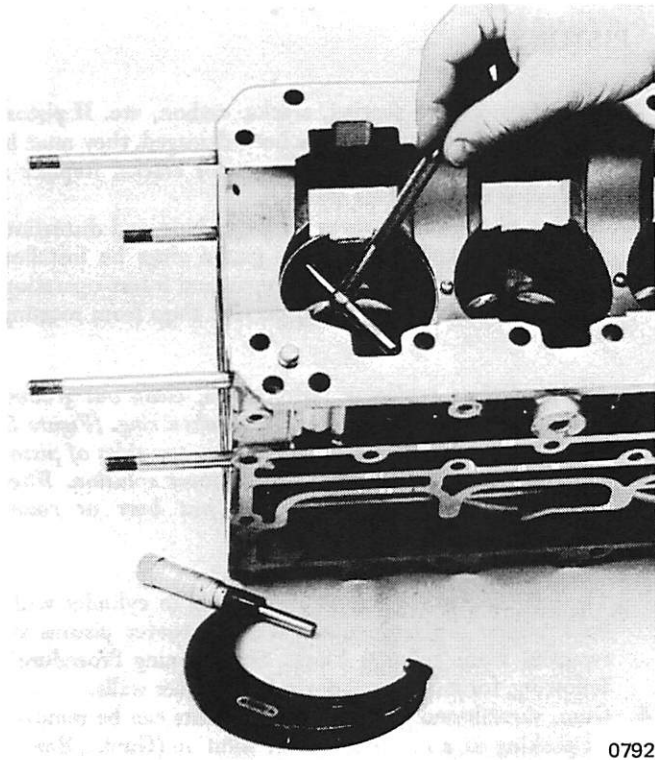

Figure 1. Checking Cylinder
4. Check cylinders for wear with an inside telescopic gauge and micrometer. (Figure 1) On engines, which display evidence of over-heating, bore should be checked for out-of-round. If worn or out-of-round (maximum .003"-.004"), rebore to .015" and install oversize piston and rings.